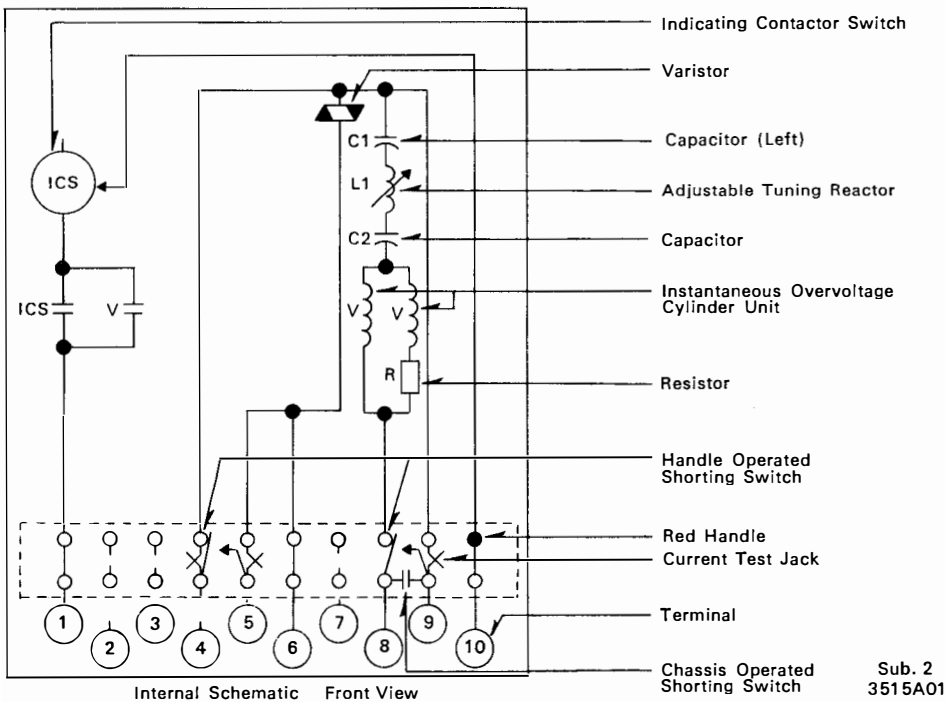

Fig. 4 Relay Type KAB Bus Differential Without IT Unit with in Service CT Check Feature.
- The operate time of the voltage unit at two times pick-up is 35 ms. Figure 4 illustrates the results of staged faults. It shows the KAB relay will operate at 1.5 cycles.